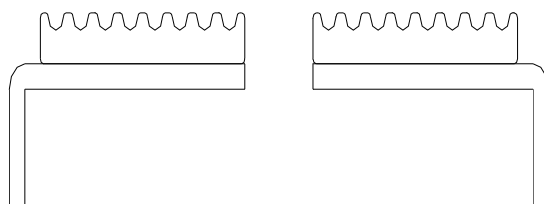

Fig 7.7.3
e. Move the carriage to the marked position on belt, put on the connecting-pole and fix the connecting-block. Take care of the direction of connecting-block to fix. Refer to Fig. 7.7.3